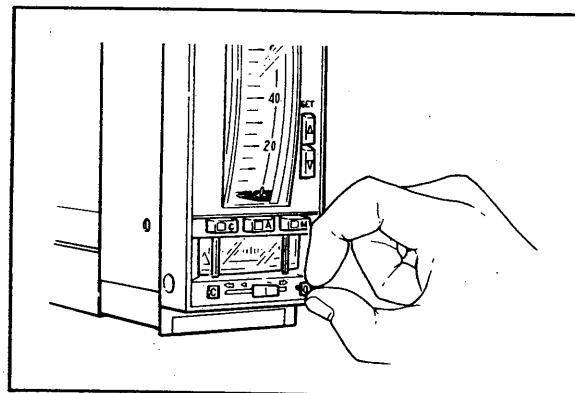

Figure 5-9. Setting Valve Open/Close Indexes.
(1) Setting Valve Open/Close Indexes (See Figure 5-9.)